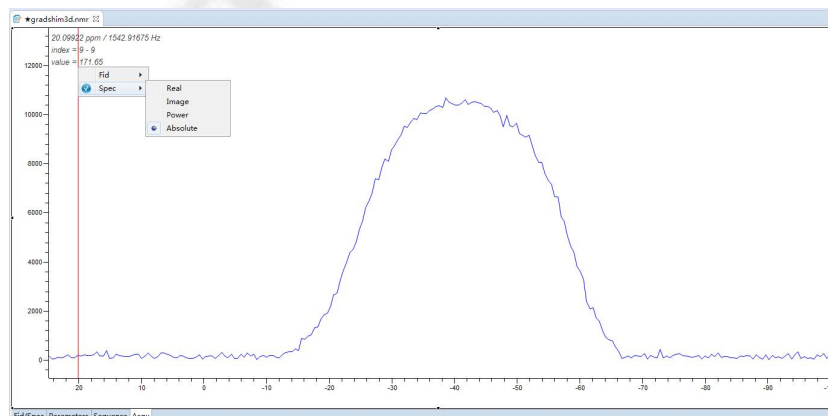

Figure 2.36 Process of gradient shimming
- (6) Clicking **Show Workspace**, will open the gradshim1d window in workspace (Figure 2.36), showing the whole process of gradient shimming.
- (2) Select **Channels**, the shim coils coils used for 3D Smart Shim. The default is composed of all coils for current spectrometer. User can edit for your own coil combinations. Please refer to above section 3D Smart Shim based on existing Field Map for details.
- (3) Click **Start** button to make new field map. After the new map is made, the program will automatically start gradient shimming using the map. Clicking **Show Workspace** next to **Make Map** will open the gradshim3d window in workspace (Figure 2.36), showing the whole process of gradient shim.
- (4) Typing *smartmapshim3d* in command line can also start 3D Smart Shim.